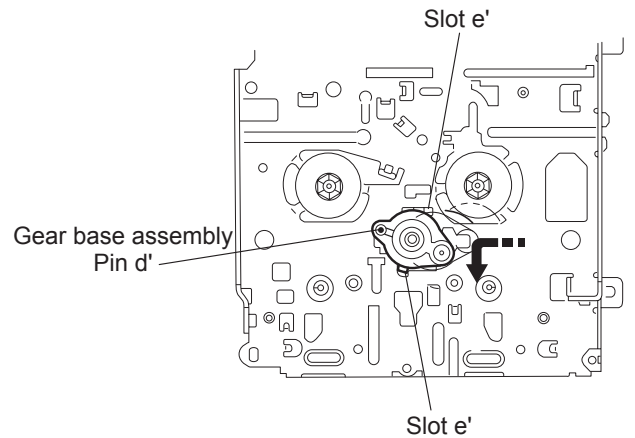

Fig.30
**(See Fig.30 to 32)**
- (1) Push in the pin **d'** of the gear base assembly on the upper side of the body and move the reflector gear toward the bottom, then pull out.
- (2) Remove the polywasher on the bottom and pull out the take up gear.
- (3) Move the gear base assembly in the direction of the arrow to release it from the two slots **e'** of the main chassis.